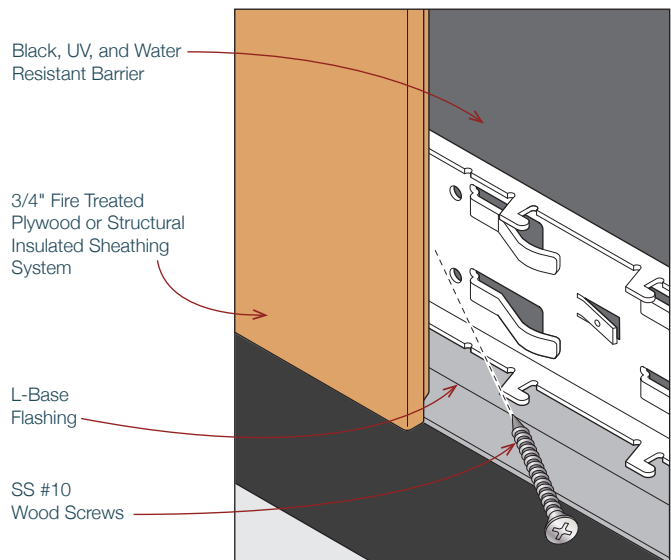

FIG. V11
14. At the top and bottom slats on the wall, there will not be joint spacers. In these locations, to secure the slat in place, fasten a #8 or #10 screw at a 30-45 degree angle through the through the middle of the SLAT Profile Profile. Once performed, the adjacent slat may be fastened (FIG. V11). Pilot hole may be necessary to accurately place the screw. This screw must be inserted before attaching the next panel.